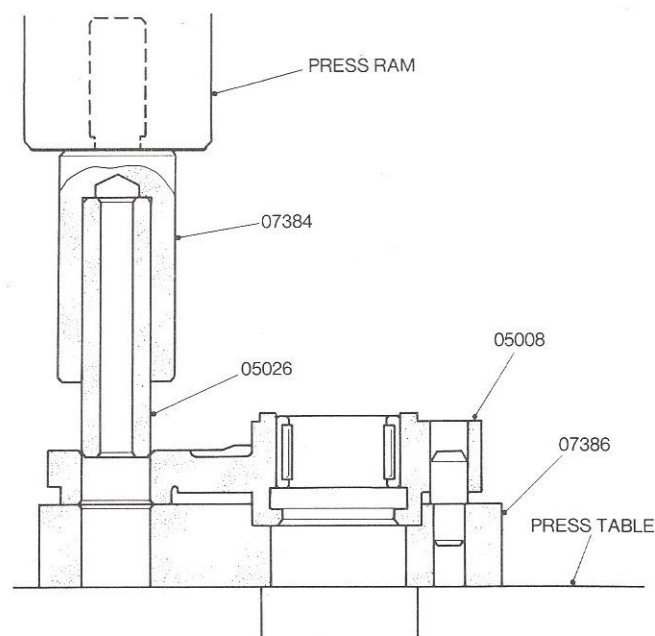

Figure 11 Assembly of the Layshaft to the Layshaft Carrier
- 9.1.5 Centralise the assembly under the press ram and press the Layshaft in until the Assembly Press Tool touches the Layshaft Carrier. See Figure 11.